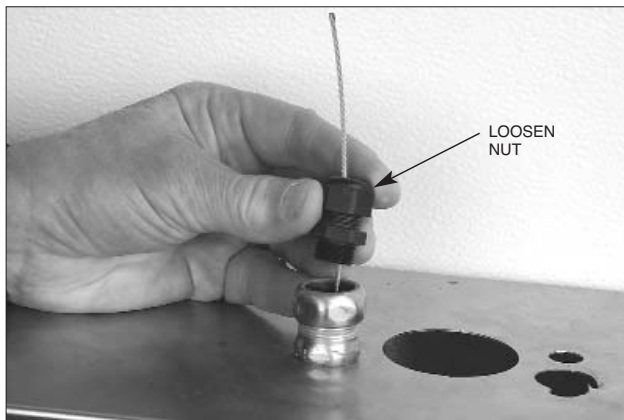

FIGURE 51
6. Loosen the nut on the strain relief and thread the wire rope through a strain relief. See Figure 51.